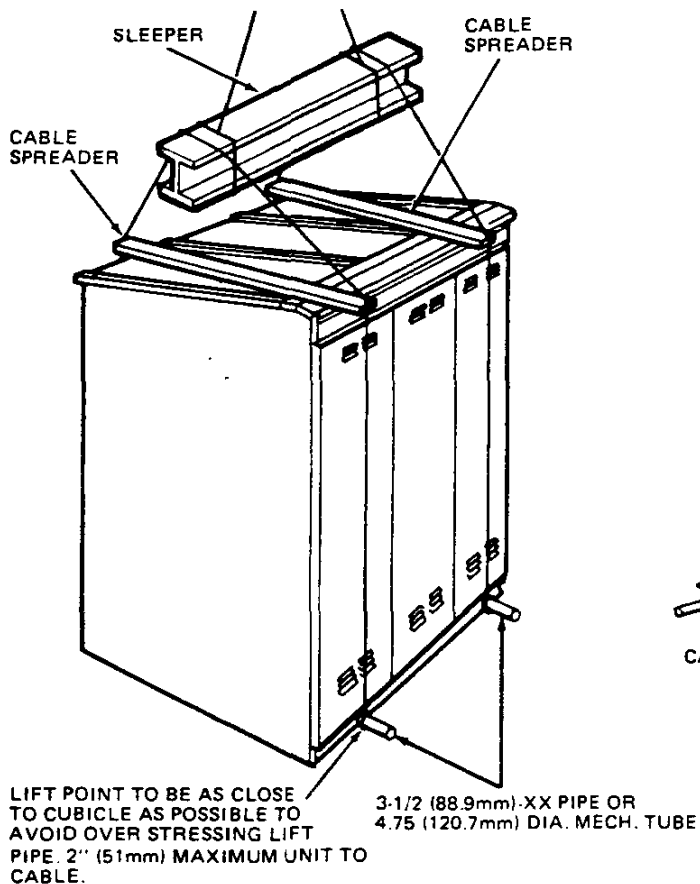

Figure 3. Lifting 34.5 kV Shelter-Clad Outdoor Switchgear
34.5 kV Shelter-Clad Switchgear (See Fig. 3)